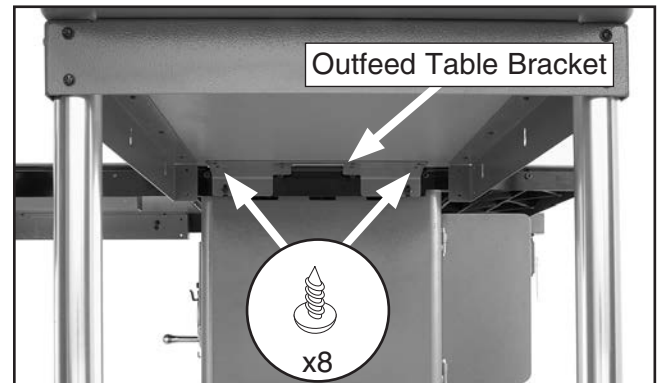

Figure 36. Outfeed table fastened to rear rail.
2. Attach front outfeed table bracket to outfeed table with (8) M4 x 16 tap screws (**see Figure 36**), and then install feet, support legs, and shelf end plate in same manner as described in **Extension Table** instructions on **Page 23**.